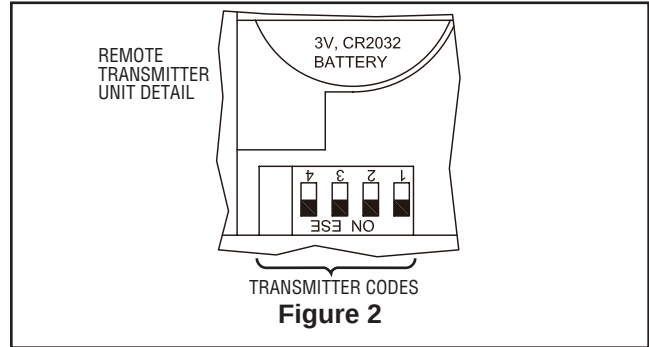

Figure 2
- ☐ 2. Loosen the two set screws in the downrod support. Route black, blue and white lead wires through the downrod (Figure 2).
- ☐ 1. Securely attach the hanger bracket to the outlet box using the outlet box screws and washers supplied with the outlet box (Figure 2).
- ☐ 1. To set the transmitter code, remove battery cover by pressing firmly below arrow and sliding cover off. Slide code switches to your choice of up or down position. Factory setting is all up. Do not use this position. With a small screwdriver or ball point pen slide firmly up or down. Replace battery cover on the transmitter (Figure 2).
- ☐ 2. Securely attach and tighten the canopy screw cover over the shoulder screws in the hanger bracket utilizing the keyslot twist-lock feature (Figure 2).
- ☐ 2. Remove one of the three screws from the Housing Support Bracket. Loosen the remaining two screws without fully removing. Connect the 2-pin connector from the Upper Light Kit Plate to the 2-pin connector from motor assembly (Figure 2).
- ☐ 2. To make fan operational, install two piece of 3-volt battery in hand-held remote transmitter, (if not using for long periods of time, remove battery to prevent damage to transmitter). Store the remote away from excessive heat or humidity (Figure 2).